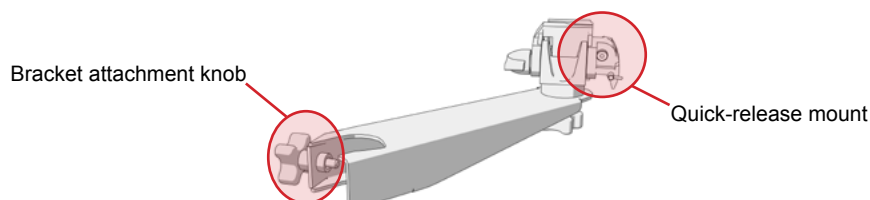

Figure 21: IV Pole Mount
1. Place the mounting bracket on the IV pole and tighten the bracket attachment knob until the mount is secure (**Figure 21**).